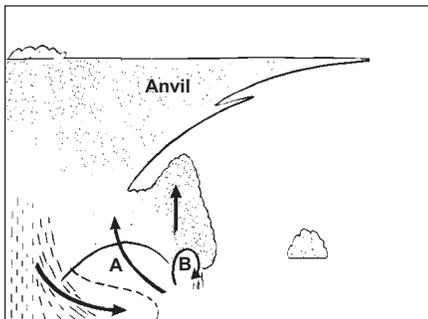

Figure 3A Region of smooth lift in A just ahead of cu-nim line. B marks possible turbulent zone.
It is sometimes possible to fly along the leading edge of a line of cu-nim clouds using the lift which develops above a squall line. To do this one may need to tuck in under the overhanging anvil cloud (Figure 3A). This brings you uncomfortably close to the main shower area. This is sometimes a region where the cloud base is higher and there are many miles of smooth strong lift (A). The snag is that a new shower cloud can develop between you and the clear air to the right producing a zone of very rough air on the escape route (B).